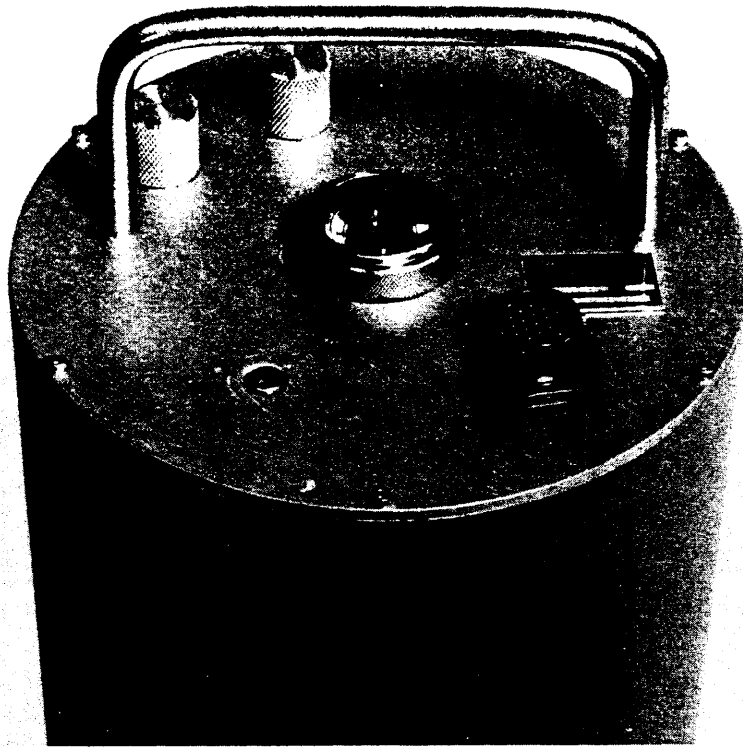

Figure 3-4a. Cover Removal
- a. The cover cannot be removed until the shipping plug is removed. See section 2.2. Lock the mass as described in section 3.2.1. Remove the  $1 \frac{3}{16}$ " hex nut from the connector (J1) that is in the top of the top plate (figure 3-4a). Hold the connector with padded pliers or other suitable device, if necessary, to prevent it from turning. Ordinarily it can be held by hand to keep it from turning. Push the connector down into the hole below its threads to keep it from being caught in the cover when it is removed.